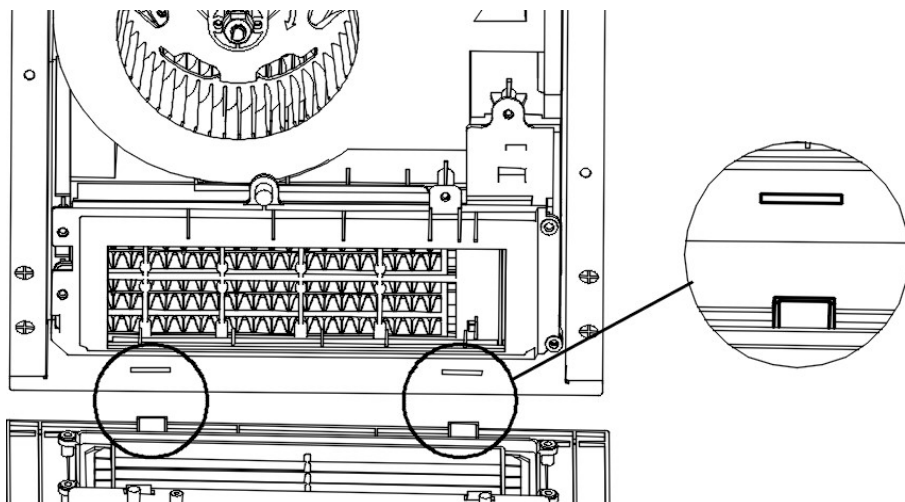

Fig.8.
9. Align the two clips of the grille with the slots on the fan housing and snap them in. (See the Fig.8.)